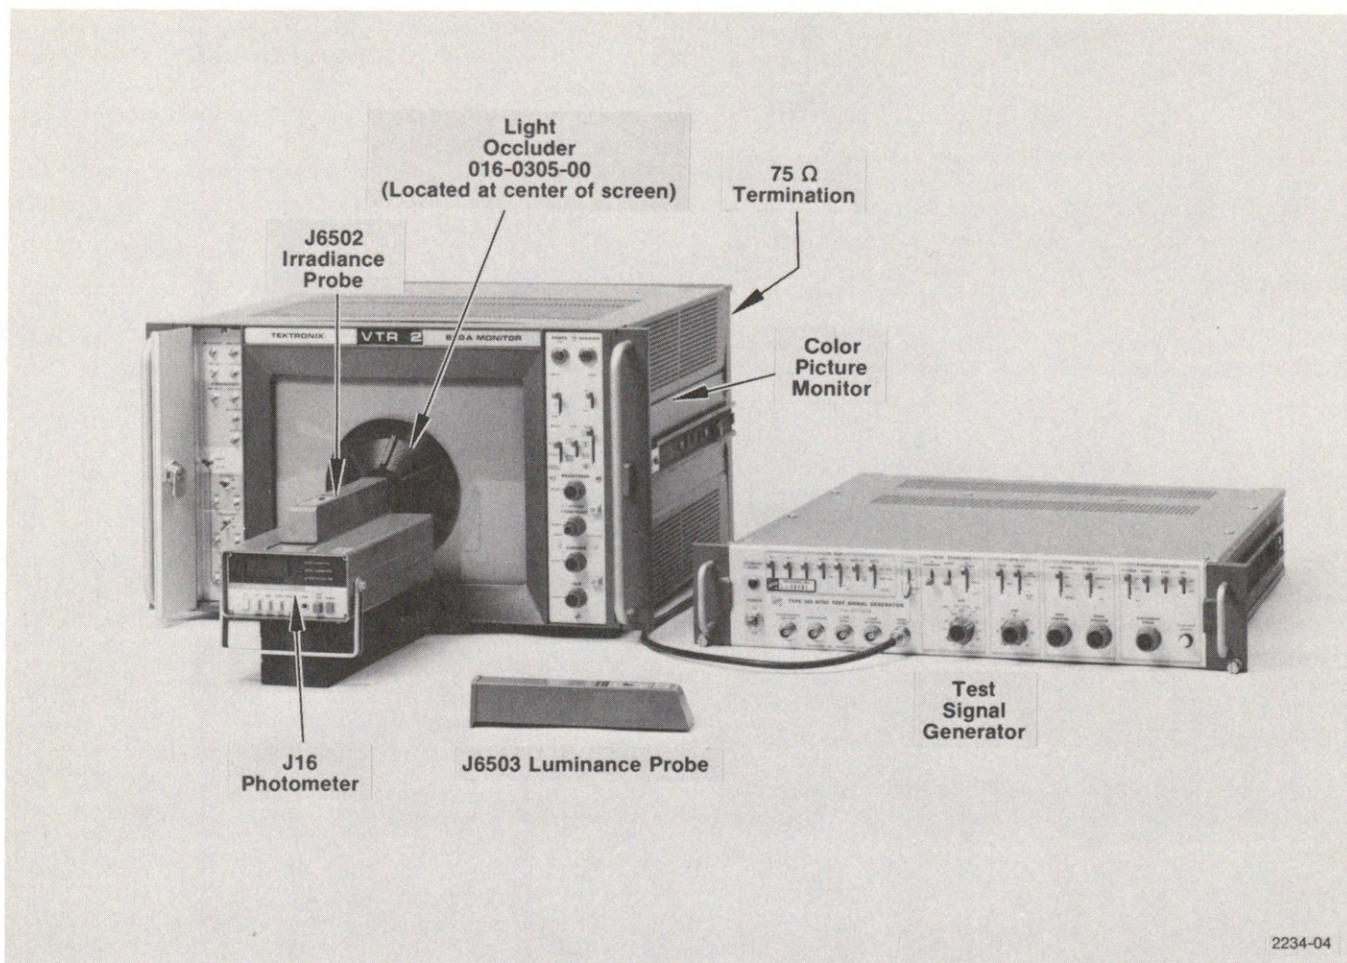

Fig. 2-4. Equipment setup when using the TEKTRONIX J16 Digital Photometer to derive readings for matching monitors.
e. Using the setup shown in Fig. 2-4, take individual low-light output readings for the red, green, and blue screens. Record these readings in Table 2-3.